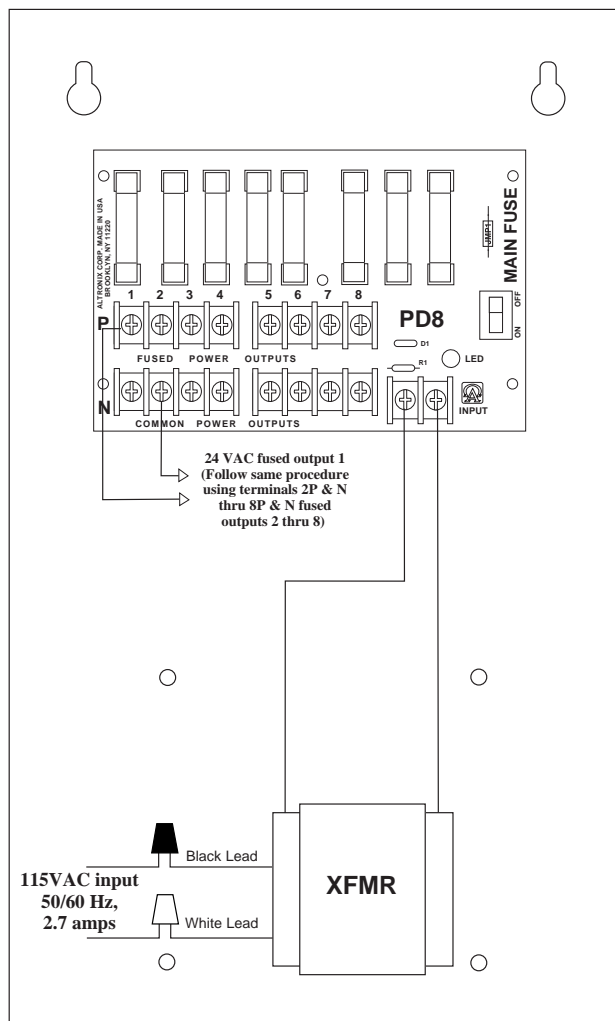

Fig. 1
- Eight (8) individual fuse protected power limited outputs.
- Output fuses are rated at 3.5 amps / 250VAC (*Fig. 1*).
2. Slide switch SW1 (*Fig. 1*) to OFF position.
3. Connect the AC (115VAC 50/60 Hz) to the black and white flying leads of the transformer (*Fig. 1*).
4. Connect each camera to terminal pairs 1 to 8, marked [1P-1N thru 8P - 8N] (*Fig. 1*).
5. Slide switch SW1 (*Fig. 1*) to ON position.